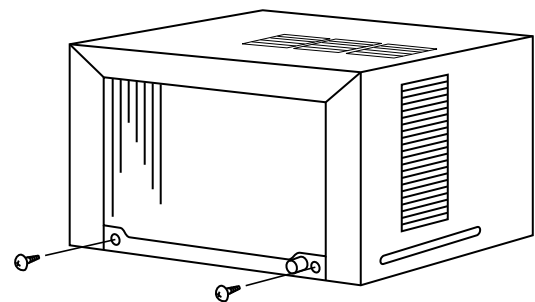

Fig. 7
- (1) Remove screws holding the unit. (Fig. 7)
- (2) Remove the front grille.